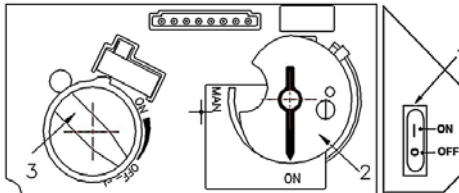
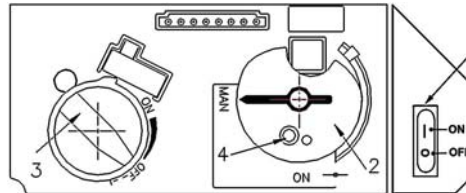
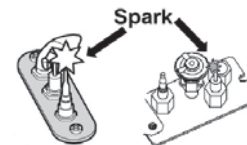

Fig 1
Fig 2
Fig 3
2. SET ON/OFF SWITCH (1) TO "OFF" POSITION.
- Wait five (5) minutes to clear out any gas, then smell for gas, including near the floor. If you smell gas, STOP! Follow "B" in the safety information above on this label. If you don't smell gas, go to the next step.
3. AUTOMATIC IGNITION (fig. 1): Locate the pilot (fig. 3.) inside of firebox at Left Hand side.
- ON/OFF switch (1) in ON position, MAN-knob (2) in ON position; set Flame Adjustment knob (3) to lowest setting (0);
- When the pilot is lit, the Flame Adjustment knob (3) will automatically rotate to the highest setting.
4. MANUAL IGNITION (fig. 2): With the window off, locate the pilot (fig. 3)